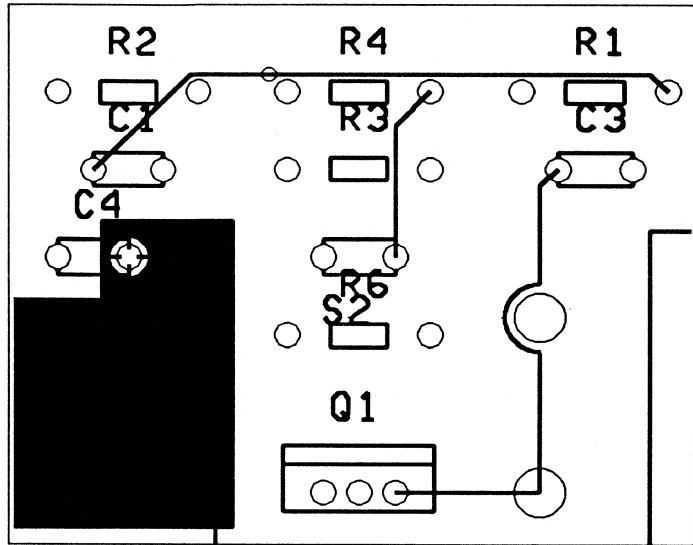

Figure 7-5. The three completed tracks.
17. Move the pointer away from the pad and select **HIGHLIGHT**. The three finished tracks look like figure 7-5.